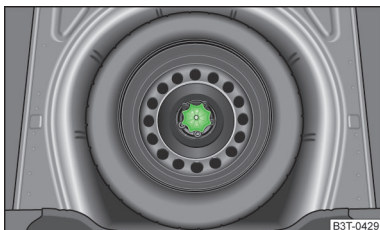

Fig. 143
The spare wheel is located in a well under the floor covering in the boot and is fixed in place with a special bolt » Fig. 143.
- › Unscrew the nut » Fig. 143 anticlockwise.
- › Screw on the nut » Fig. 143 clockwise until the wheel is safely secured.